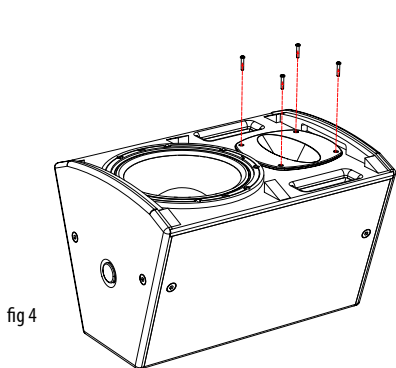

fig 4
4. Remove the M5 hex head HF horn fixing screws (fig 4).